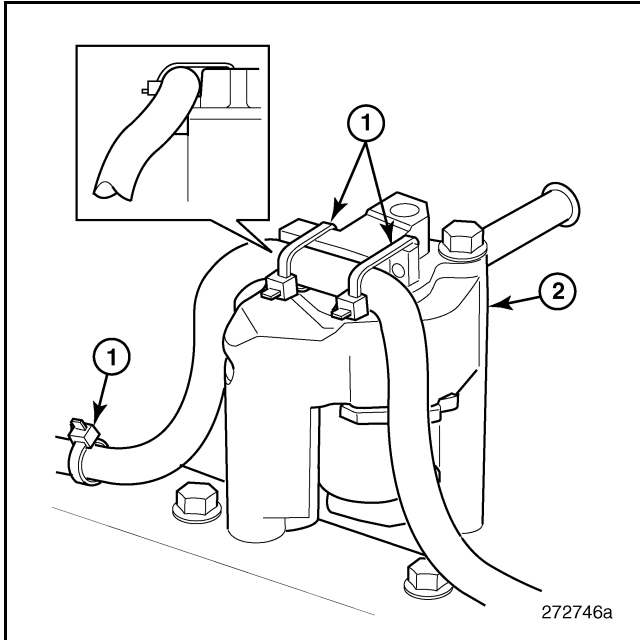

Figure 438 — Harness Routing Over Engine Brake Control Valve
6. If not previously done, carefully route the wiring harness over the engine brake control valve. Secure the harness to the control valve as shown in Figure 438. Make sure that the harness is positioned to the side of the boss at the top of the valve assembly.